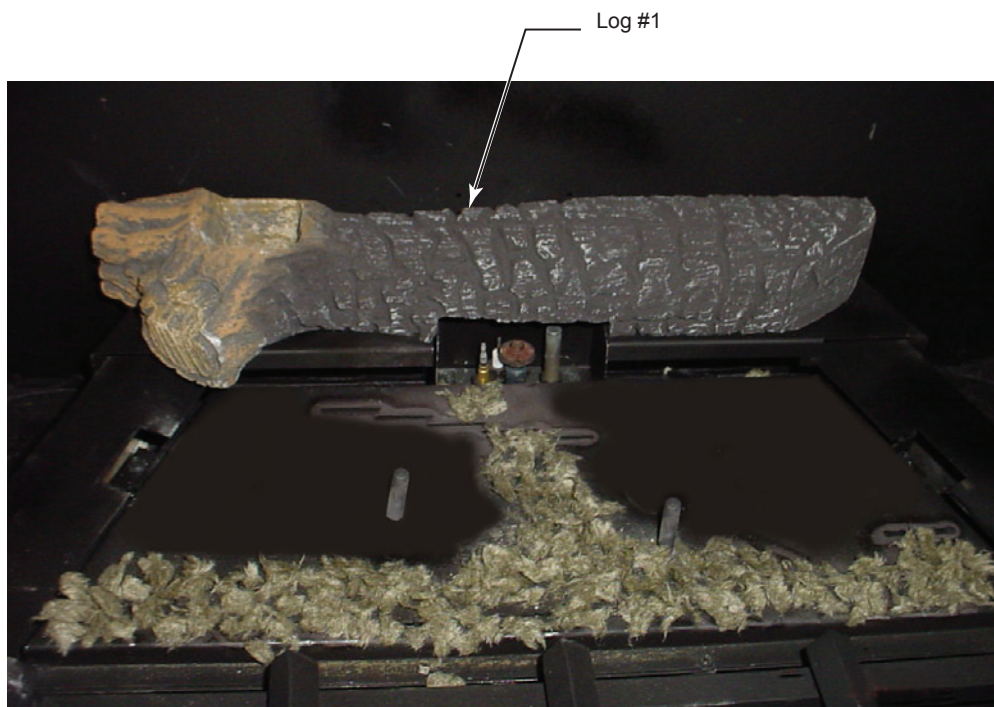

**Figure 65 -
2. Place log #1 by setting the log over the rear bracket over the two pins. *Figure 65*